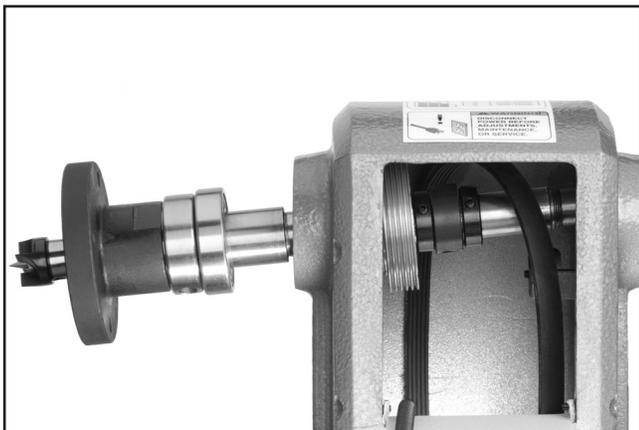

Figure 48. Belt removal.
5. Tap the spindle far enough out of the headstock that the belt can be removed. A rubber or wooden mallet may be required. Take care not to damage the spindle threads or to lose parts in the process (**Figure 48**).